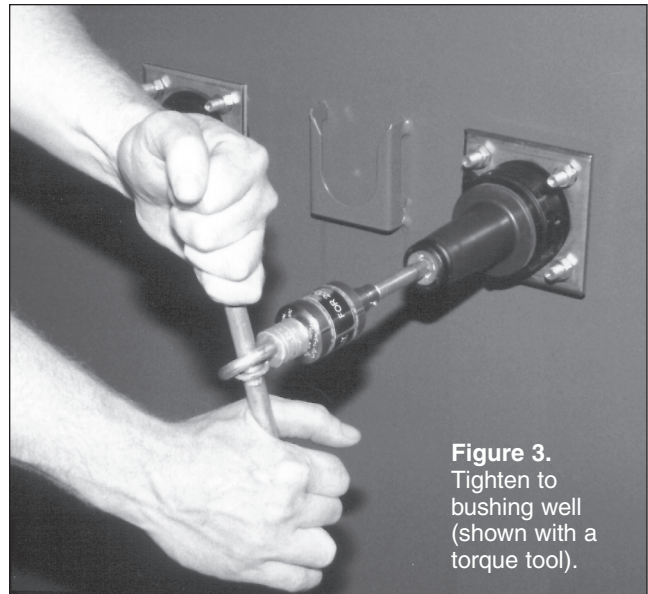

Figure 3.
- If installing using a torque tool, the torque setting should be set for 15 ft-lbs. (See Figure 3.)